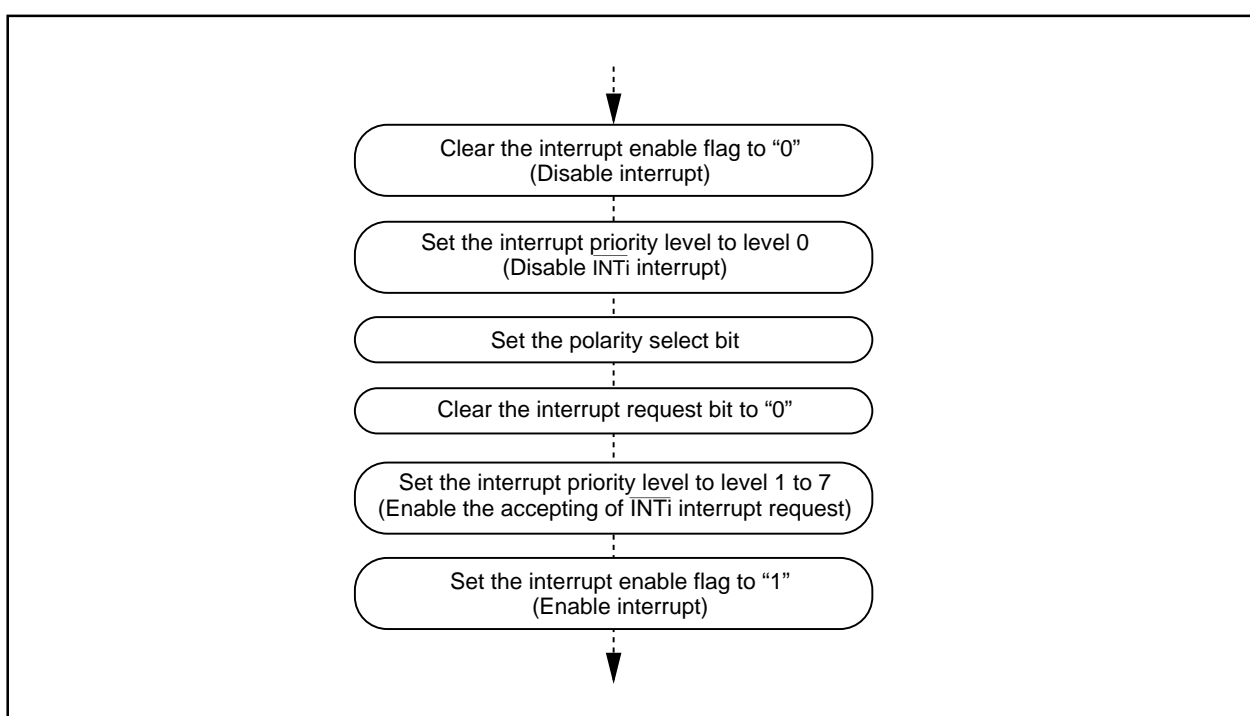

Figure 1.33. Switching condition of  $\overline{\text{INT}}$  interrupt request
- When changing a polarity of pins  $\overline{\text{INT0}}$  and  $\overline{\text{INT1}}$ , the interrupt request bit may become "1". Clear the interrupt request bit after changing the polarity. Figure 1.33 shows the switching condition of  $\overline{\text{INT}}$  interrupt request.